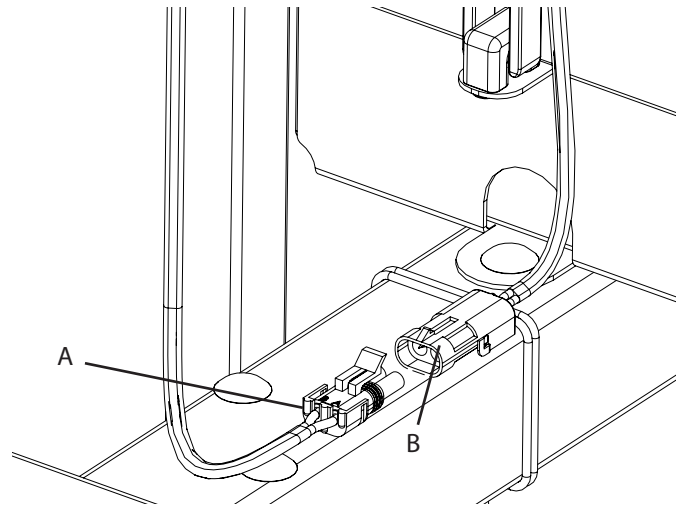

Figure 13: Reconnect solar harness plug to the charge controller harness plug.
- Reconnect the charge controller harness (B) to the solar panel harness (A). (Figure 13)